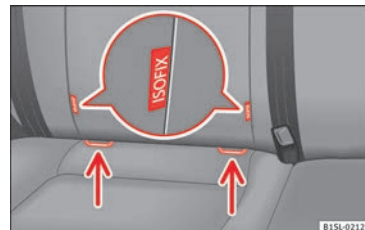

Fig. 26 On the vehicle seat: identification variants of the anchor points for the child seats
- Press the child seat onto the retaining rings » **Fig. 26** in the direction of the arrow. The child seat must be safely engaged and click audibly into place.
- Place the child seat on the seat cushion and attach the retaining strap hooks to the retaining rings » **Fig. 26.**